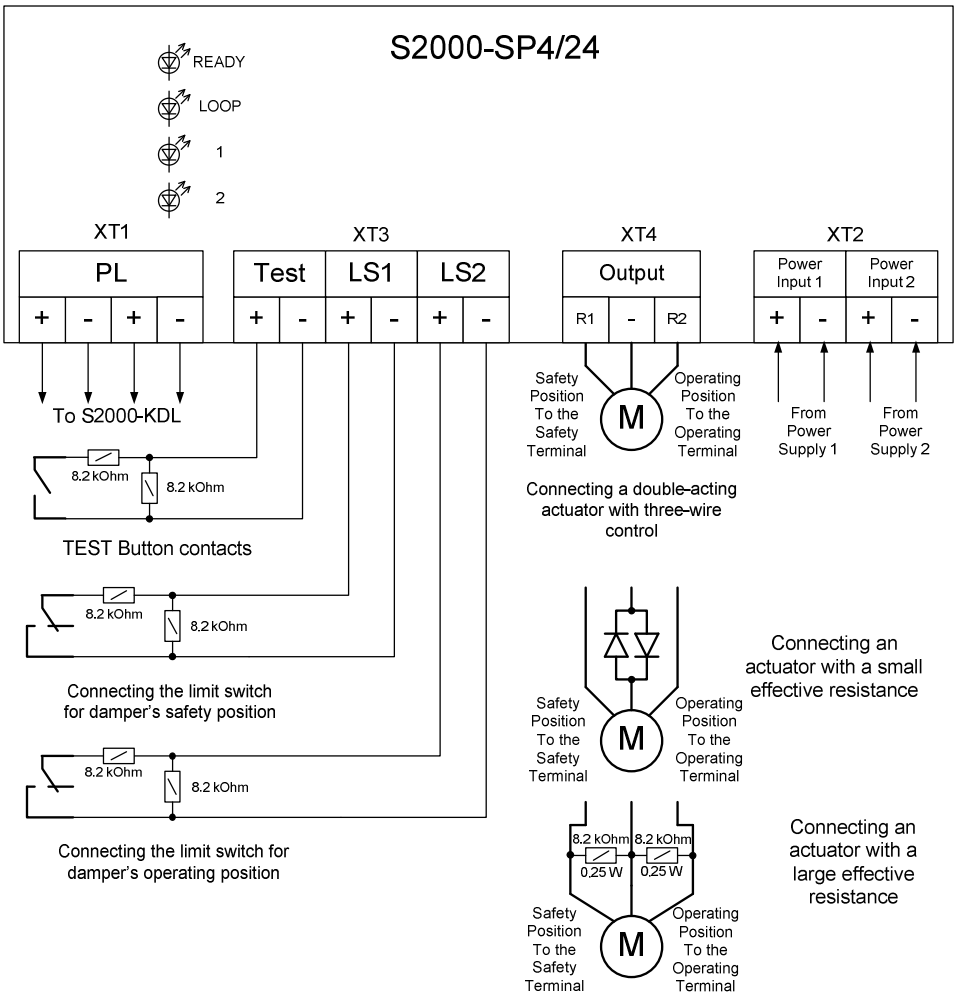

Figure 1. Connection Diagram.
2.1.4 If executive devices with the effective resistance of 250 Ohm to 50 kOhm are to be connected to the module, they should be connected directly without any additional units (see Figure 1).
2.1.5 If the effective resistance of an executive device is less than 250 Ohm, the device must be connected in series with a diode of the relevant wattage (a 1N4007 diode if the operational current does not exceed 1A or a 1N5406 diode if the operational current exceeds 1A) which must be in proximity of the executive device (see Figure 1). If the executive device is powered by an AC power supply, two diodes must be installed back-to-back, in parallel.
and the relevant wattage (8.2 kOhm & 0.25 W is recommended) should be brought in the circuit closely to the executive device, in parallel with it (see Figure 1).
3.2.5 Wire the module as shown in Figure 1.